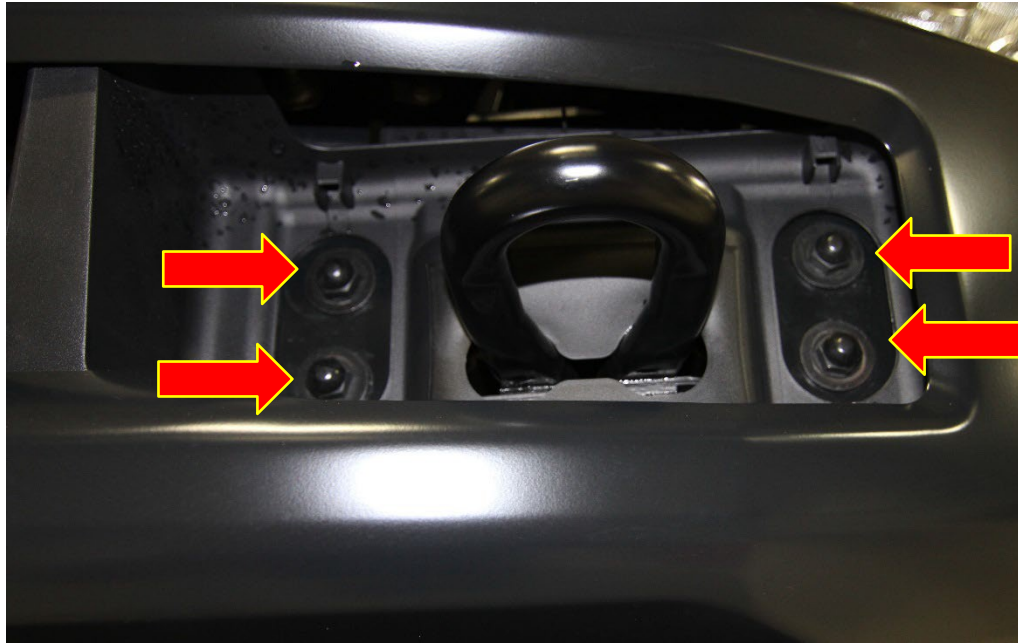

Figure 1
1. Start by removing four bolts around tow hook on each side of vehicle. This will require an 18mm socket. (Fig. 1)